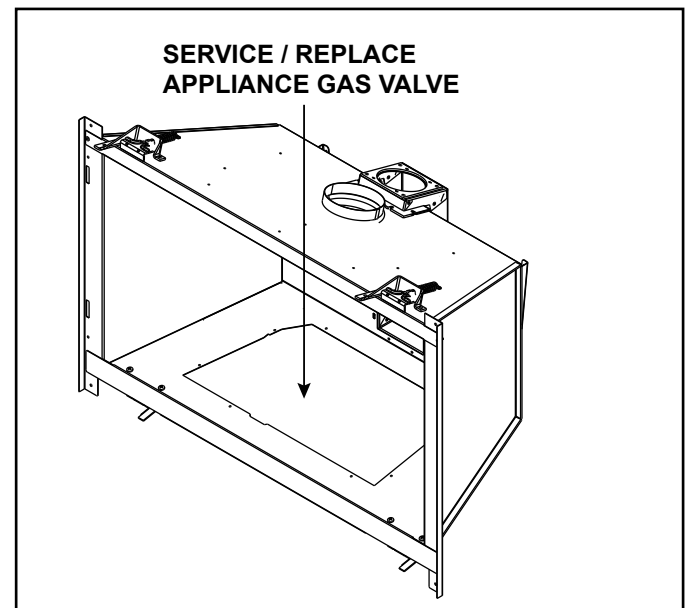

Figure 7.6 Gas Valve Access
2. Access gas valve as shown in Figure 7.6 and perform service and/or replacement.